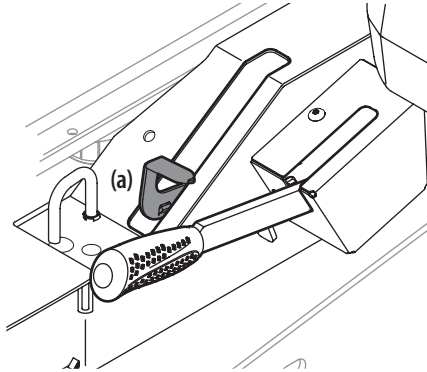

Figure 32
1. Engage the transmission bypass valves by pulling the bypass lever (a) upward and all the way back. See Figure 32.
2. To release the bypass lever (a), push the lever forward. See Figure 32.